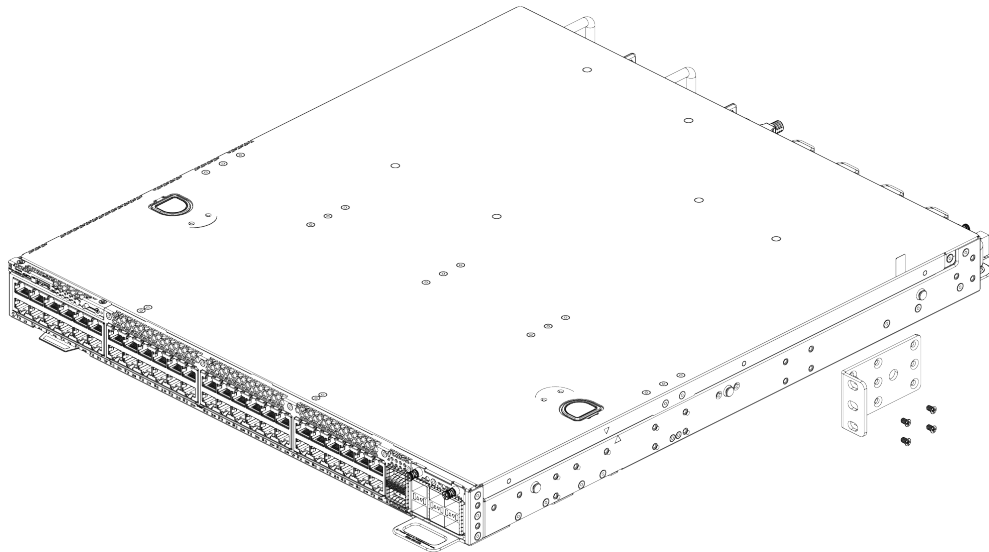

Figure 36: Attaching a Short Mounting Bracket (Ear): Middle of Switch
- b. For a mid-mount, position the bracket so that the flange (ear) is positioned slightly more than halfway between the front and back of the switch, as shown in figure below: Figure 36.